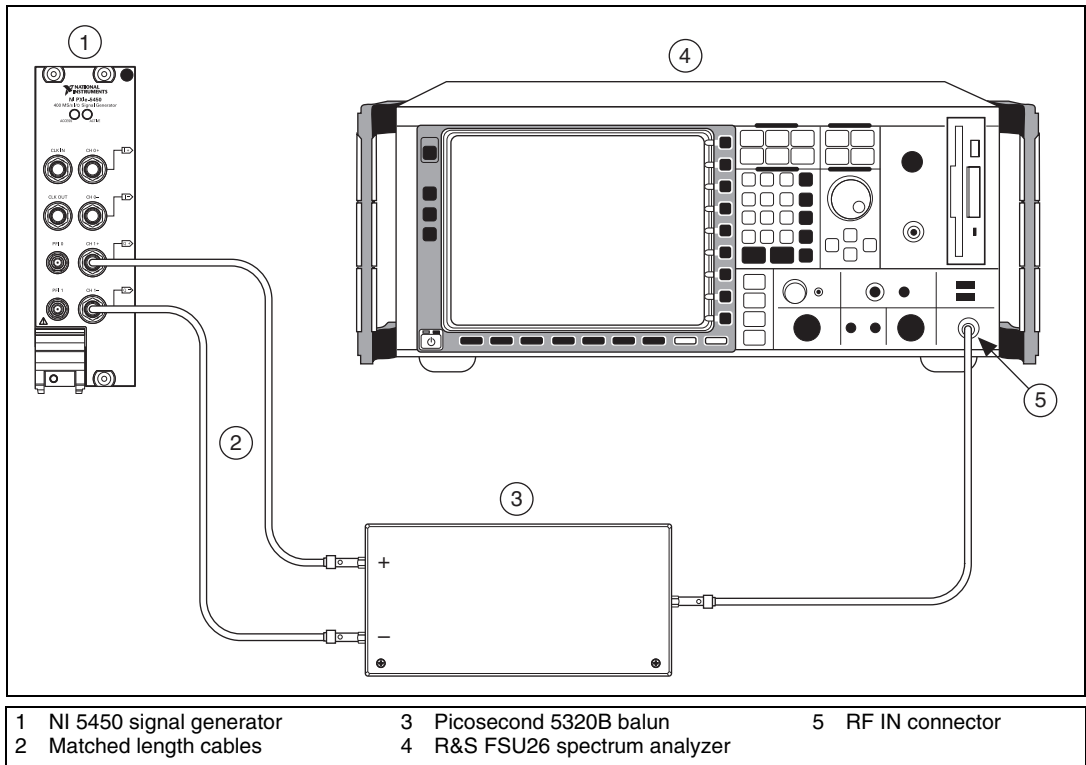

Figure 11. NI 5450 Connection to Spectrum Analyzer Using a BALUN (CH 1)
11. Connect the devices as shown in Figure 11.